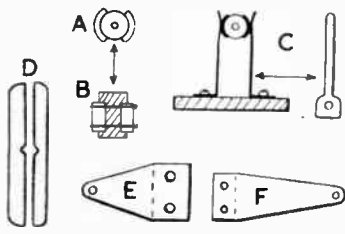

Fig. 3—Armature, commutator, etc.
The bearings (E) and (F) in Fig. 3 are
A length of steel knitting-needle is, perhaps, best for the axle. To avoid drilling, the armature can be made up from two pieces of iron, as shown at (D), Fig. 3. Small grooves are filed across the inner faces of these pieces so when the axle is placed in these grooves and the two pieces bound with thread, the whole is secure. If desired, solder may be added.
The commutator consists of an insulated centre piece with two small segments of metal, and is shown at (A) and (B) in Fig. 3. Wood, ebonite tubing, or glued tape can be used for the centre. The segments can be bent from a little brass or tin, or a small piece of copper or brass tubing can be sawn in two. The segments are held in place by